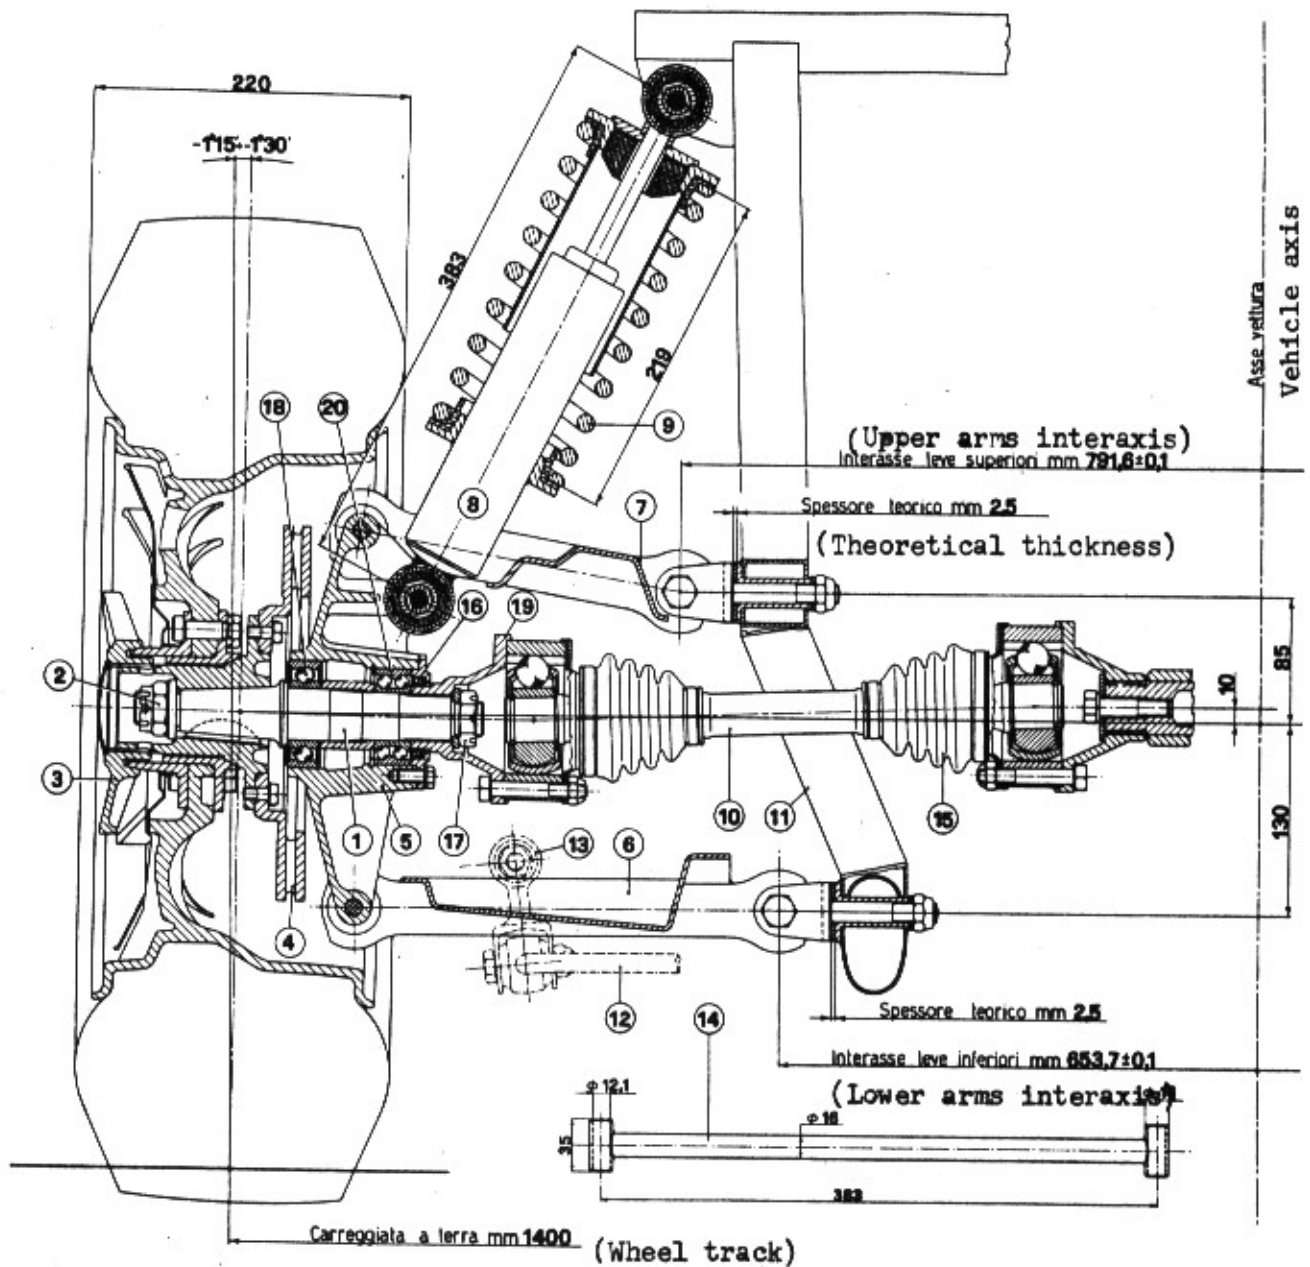

Fig. 70. REAR SUSPENSION TRANSVERSE SECTION.
- Loosen wheel retaining hubs 3 (fig. 70) and the wheel support shaft nut 2 with a 27 mm. socket tool, then raise the car and remove the wheels.
--Replace the oil retaining ring on flange 16 (fig. 70).
--During assembly lubricate roller bearing 20 (fig. 70) with Shell ALVANIA EP2 grease and add a reserve supply of it of about 150 grams between the two bearings 18 and 20. Tighten the outside nut 2 to 22 Kg. and the internal bearings 17 to 20 Kg.